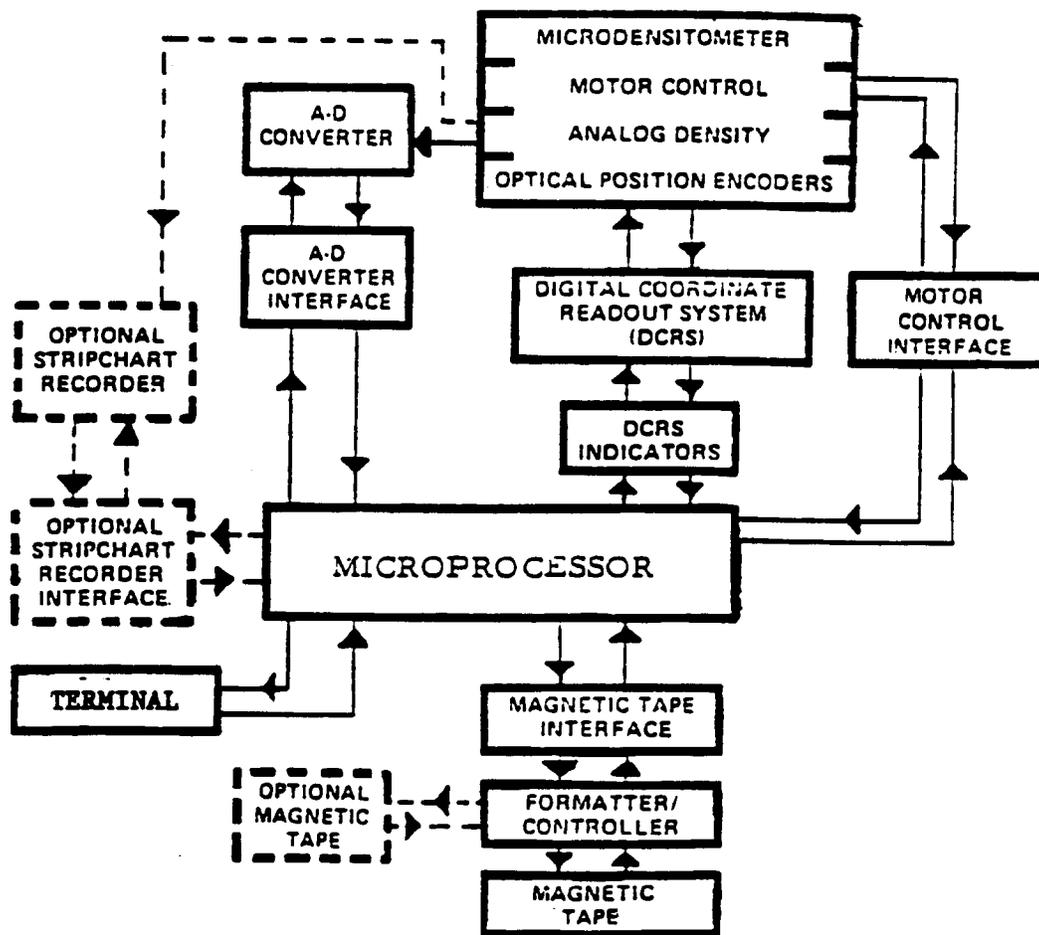

FIGURE 1-2. The Micro-10 System Block Diagram.
1.3.2 FUNCTIONAL DESCRIPTION. Figure 1-2 is the block diagram of the Micro-10 Microdensitometer System. Even though all parts of the system are interdependent, the following general description of each separate element of the system provides a helpful functional overview.